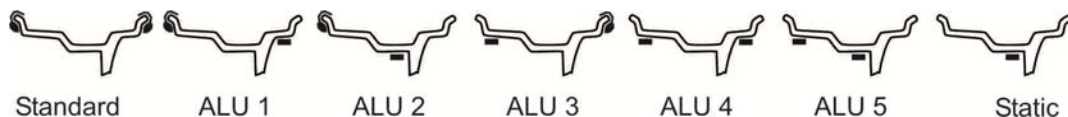

Figure 5.2 – possible weight setting schemes
The machine allows for weight setting on the wheel on various schemes depending on the wheel design. The possible schemes are shown in Figure 5.2.
- The machine of LUX configuration when the direct measurement mode is engaged – for the schemes STANDARD, ALU1, ALU3 or ALU4 (figure 5.2).